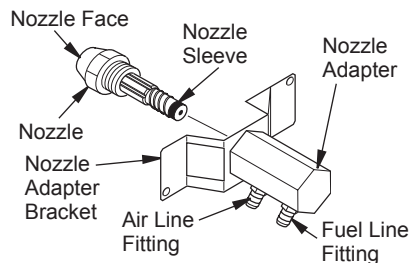

Figure 21 - Nozzle and Nozzle Adapter
- Carefully remove nozzle from nozzle adapter using 5/8" socket wrench (see Figure 21).